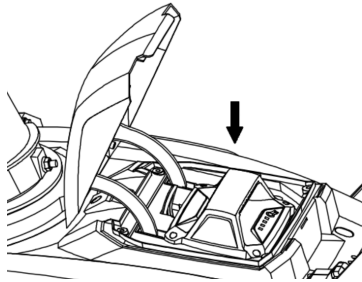

Fig.2
1. Open the battery compartment cover and slide the battery vertical down as Fig. 2 shows.